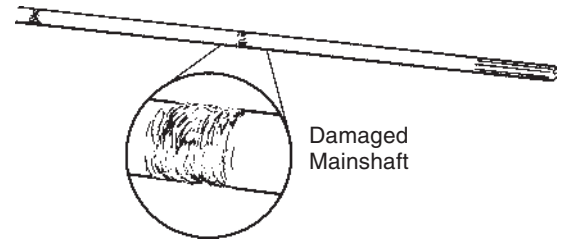

Figure 10.2 Inspect the mainshaft.
- Pitting, scoring, or galling on the mainshaft (Figure 10.2) indicates a bushing failure. In that event, **the mainshaft and all damaged bushings must be replaced!**